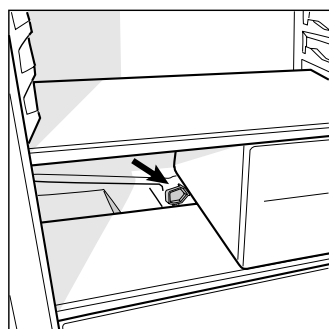

Fig. 5
This appliance defrosts automatically and the water is channelled to the back toward the drain installed for this purpose (Fig. 5). Here, the heat produced by the compressor will make it evaporate. The only thing you must do is to periodically check and clean the hole of the drain, which is located behind the fruit and vegetable crisper, so that the water drains properly.
- The defrost drain is clear from any blockage (see fig.5).